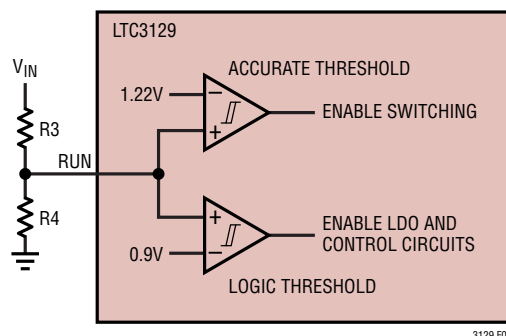

Figure 2. Accurate RUN Pin Comparator
**RUN (Pin 4/Pin 2):** Input to the Run Comparator. Pull this pin above 1.1V to enable the VCC regulator and above 1.28V to enable the converter. Connecting this pin to a resistor divider from VIN to ground allows programming a VIN start threshold higher than the 1.8V (typical) VIN UVLO threshold. In this case, the typical VIN turn-on threshold is determined by  $V_{IN} = 1.22V \cdot [1 + (R3/R4)]$  (see Figure 2).
With the addition of an optional resistor divider as shown in Figure 2, the RUN pin can be used to establish a user-programmable turn-on and turn-off threshold. This feature can be utilized to minimize battery drain below a certain input voltage, or to operate the converter in a hiccup mode from very low current sources.